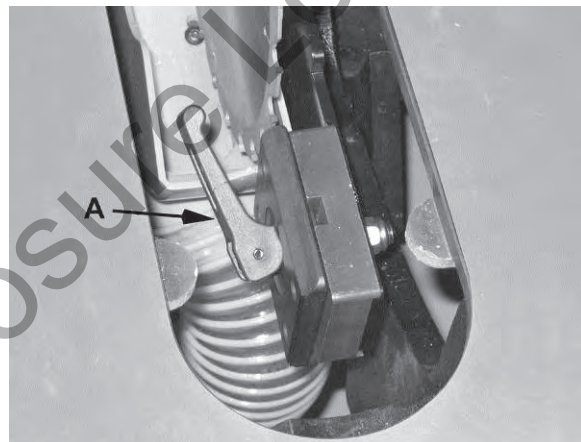
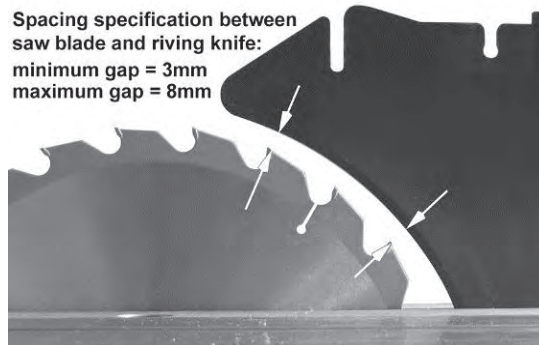

Figure 18
Figure 20
4. Loosen the *lock handle* (A, Fig. 18) and remove the riving knife, making a note as to which direction the riving knife needs to be moved to align it with the saw blade.
Adjust any number of setscrews required to bring the riving knife in alignment with the saw blade. Then reinsert the riving knife, secure by tightening the *lock handle* (A, Fig. 18) and check the alignment per step 2.
**Note:** Position the lock handle *towards* the saw blade as shown in Figure 18. This will avoid the table insert from being lifted when the blade is raised with the handwheel.
The gap between the saw blade and riving knife must be between 3 and 8mm (Figure 20). If adjustment is needed, note whether the blade to knife gap needs to be increased or decreased. Then adjust as follows:
3. Slide the *fixed clamp block* (F) toward or away from the saw blade as required.
4. Tighten the *socket head button screws* (E).
5. Reinsert the *living knife*; tighten the *lock handle* (A, Fig. 18) and check that the saw blade/knife gap is between 3 - 8mm (Figure 20).